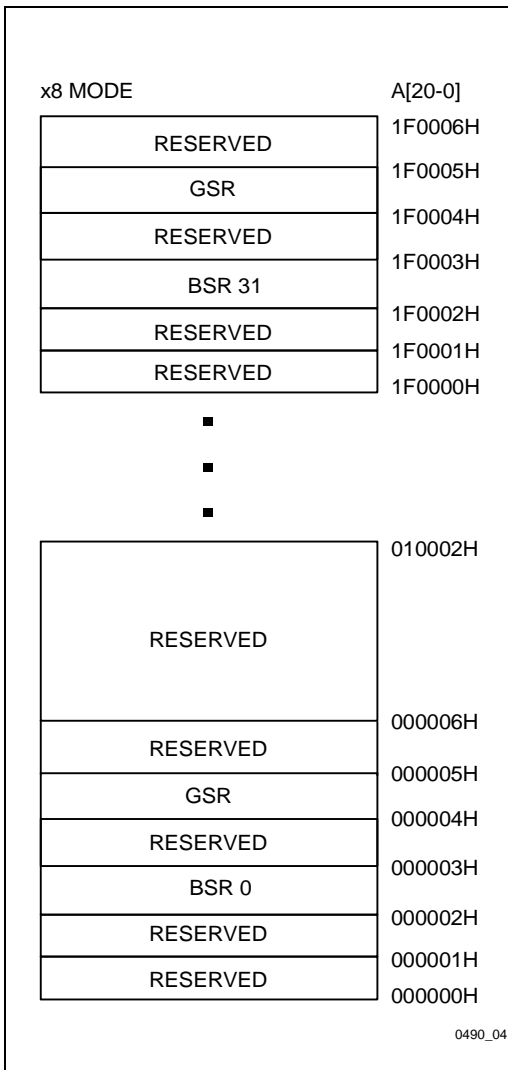

Figure 4. Extended Status Register Memory Map (Byte-Wide Mode)
The GSR and BSR memory maps for byte-wide and word-wide modes are shown in Figures 4 and 5.
1. RA can be the GSR address or any BSR address. See Figures 4 and 5 for Extended Status Register Memory Maps.